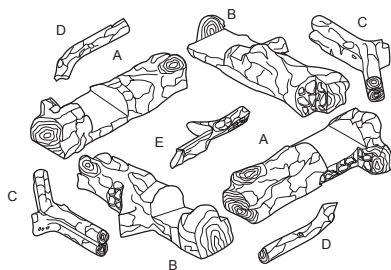

Figure 46 - Log Set (9 Pieces)
4. Figure 46, page 26, shows log set. Logs "A" have the knot at end of log. Logs "B" have the knot at middle of log. Twigs "C" have the shape of a "Y". Twigs "D" have the shape of bent twigs. Twig "E" is a